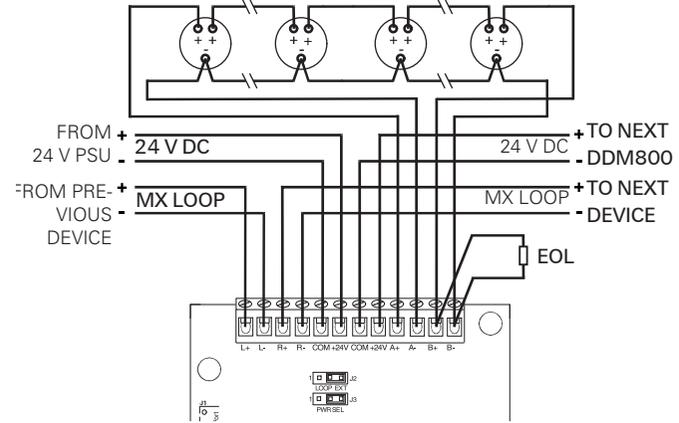

Fig. 9: Loop circuits (Class A wiring) with external 24 V
- 5 For Class A wiring (see Fig. 9), detector circuit A is used, the return is to circuit B which is fitted with the EOL.